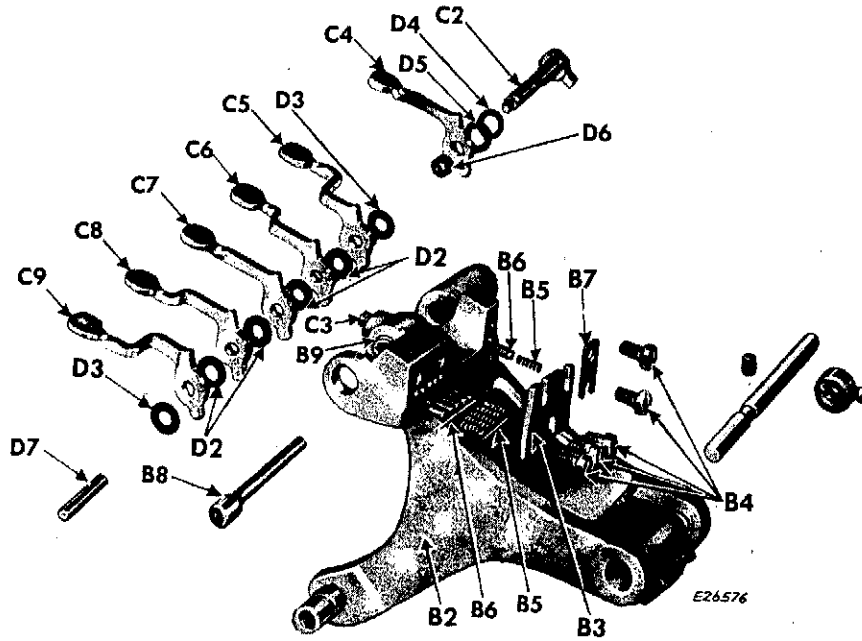

Fig. 251
- (a) Three disc retainer screws **B4**, Fig. 251 and retainer **B3**.